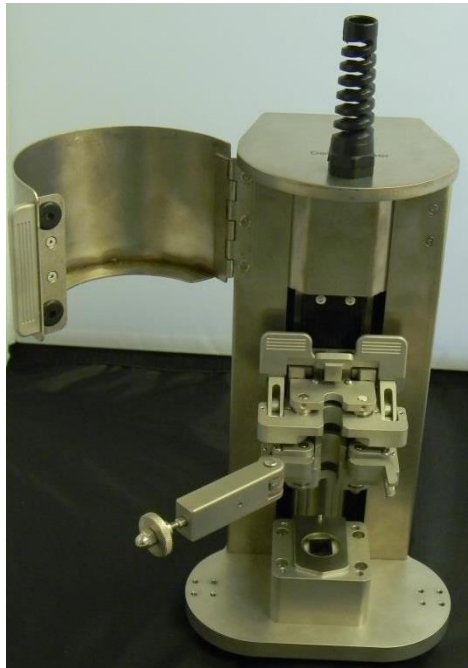

Figure 4-1: FlowVPE Pre-Mount Configuration
Make sure the Fibrette Clamp is open. The Lock Arm will be pointed out, and the Clamp Handle will be pushed back. Open the door on the cover of the Flow Head. This is the curved metal sheet that displays the FlowVPE logo. Figure 4-1 is a depiction of a Flow Head that is ready for Flow Cell and Fibrette mounting.
3. **Ensure once more that the Flow Head is ready to accept the Flow Cell and Fibrette. Review Section 4.1 and Figure 4-1 to ensure all pertinent items have been completed.**